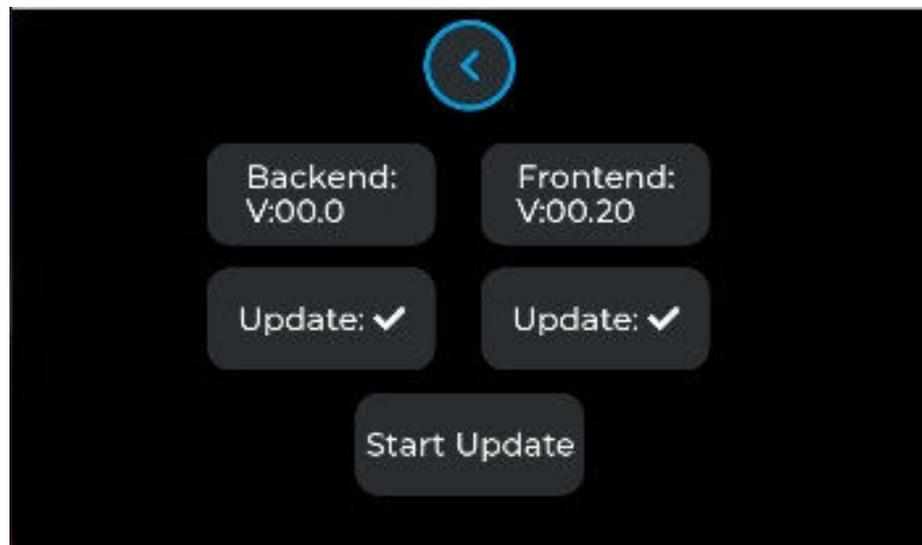

Fig. 6.11 Update menu
- 6) An update window opens as shown in Fig. 6.11. The update can be started with the "Start Update" button. The progress of the update is shown in percent on the display.